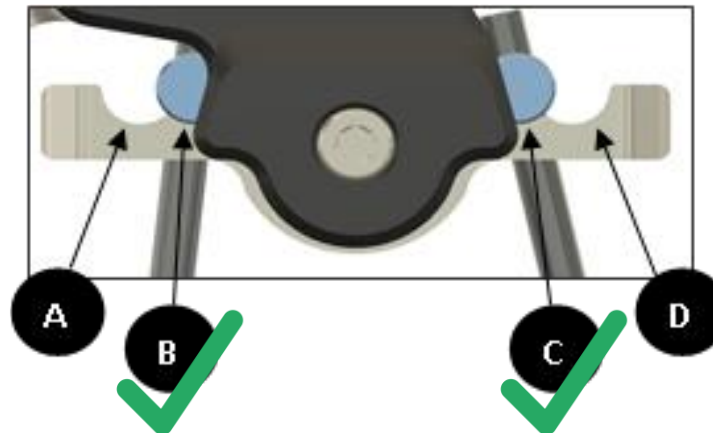

FIG. 4
1. Place the SwitchGrade on the seatpost head with the Lever (1) facing forward (towards front wheel) and ensure that the Arc-Bearing Surface (11) is fully resting within the cradle.
2. Begin by installing the rear Bolt (14) and 8mm Cylinder Nut (13). NOTE: in most cases a longer bolt will be used in the rear. Try different combinations of bolts aiming to have at least 2-3 threads showing above the cylinder nut when fully tightened. Depending on your seatpost you may need to use combinations of the supplied spacers and spherical nuts along with the bolts.
3. Place the 8mm cylinder nut into the **Rear Scallop C (see Fig 4)**. Optionally, refer to the Compatibility Table showing recommended Scallop configurations found on our website.
**WARNING !** Ensure the 8mm Cylinder Nut (13) is resting fully within the Scallop and there is zero gap. Check to see that the nut is not resting on the peak between the Scallops. Failure to install properly could lead to damage to your SwitchGrade, bike or components and/or loss of vehicular control.
**WARNING !** Ensure the Bolt (14) does not contact any part of the SwitchGrade but allows complete insertion into Cylinder Nut (13). If required, you may need to try different combinations of bolts and spacers.
5. Next, install the front fastener Bolt (14) and Cylinder Nut (13) by following Steps 3 and 4 above but instead, place the cylinder nut in **Front Scallop B (see Fig. 4)**. Most Type 1 compatible seatposts will use front Scallop B. Refer to the Compatibility Table showing recommended Scallop configurations on our website.